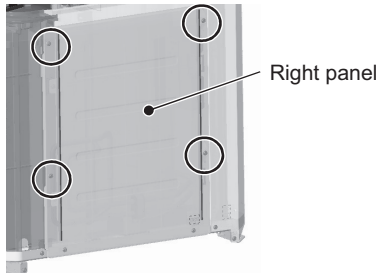

Figure 1
- (1) Remove the front heat exchanger. Refer to 8-13-11 Maintenance Procedures for the Heat Exchanger <Type A> or 8-13-12 Maintenance Procedures for the Heat Exchanger <Type A1/Type A2> for details.
- (2) Remove the top, front, and right compressor covers. Refer to 8-13-6 Compressor Replacement Procedure <Type A> or 8-13-7 Compressor Replacement Procedure <Type A1/Type A2> for details.
- (3) Remove the duct from the control box. Refer to the control box replacement procedure for details.
- (4) Remove the right and inside (right) compressor panels by unscrewing the four screws. (Applicable only to the S-module. See Figures 1 and 2.)